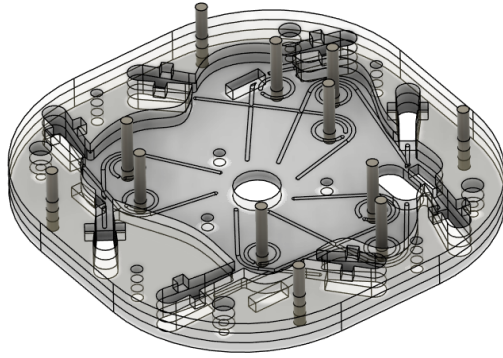

Figure 8: MidPlate after MidPlateShell and MidPlateShellBearing have been glued in place.
4. Repeat the previous step with MidPlateShellBearing. The assembly should now look like Figure 8.